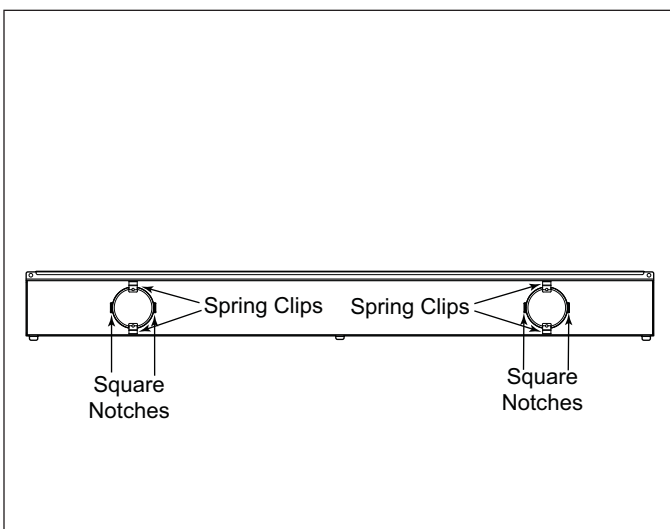

Figure 3-4. LED Light Assembly
2. Align spring clips to square notches in Light Assembly Support. Depress spring clips on side of LED Light Assembly and push through Light Assembly Support. (See Figure 3-4)